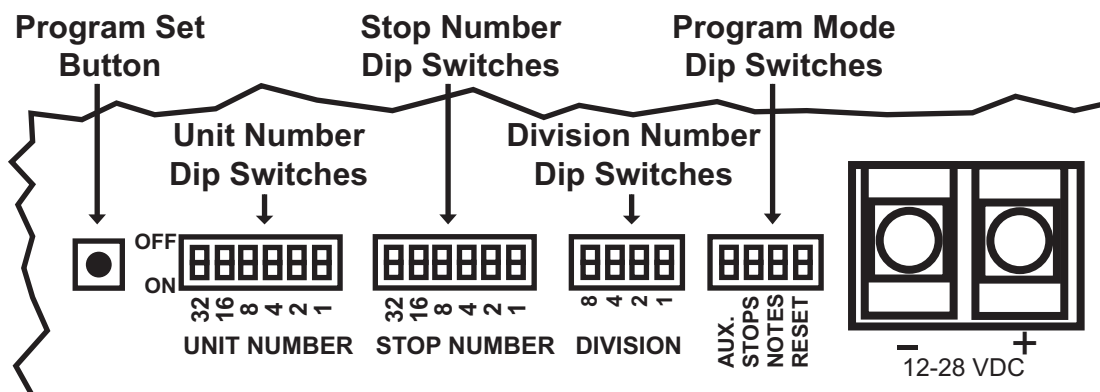

Figure 5.3 “Driver-Board-Programming-DIPs”
2. On the Program Mode Dip Switches, see figure 5.3 “Driver-Board-Programming-DIPs,” set the STOPS Switch to ON(closed). The AUX., NOTES and RESET Switches must be OFF (open).